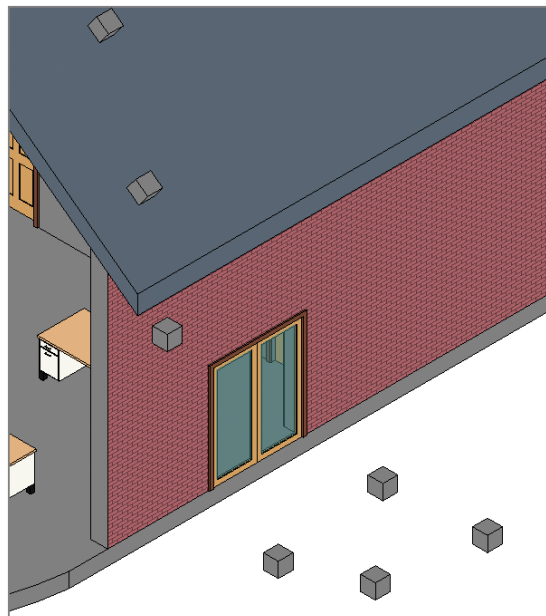

FIGURE 5.10 Placement of face-based families
4. In the ribbon, change the placement method to Place On Work Plane, and then try placing some instances outside the building envelope (Figure 5.10).